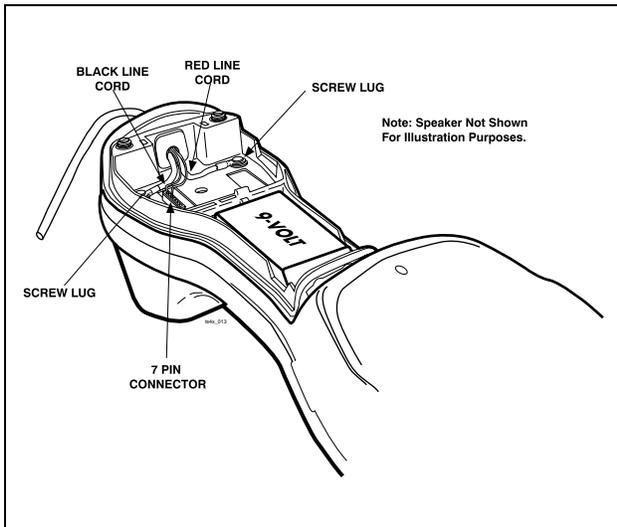

Figure 8. Removal/Installation of Line Cord Screw Lugs
6. Unplug the 7-pin plastic connector (see Figure 8) from the receptacle on the PCB board.
7. Slip the line cord screw lugs (see Figure 8) and 7-pin plastic connector out through the hole in the end of the housing.
2. Fasten the red wire lug to the PCB (Ring) with screw and washer (see Figure 8).
3. Fasten the black wire lug to the PCB (Tip) with screw and washer (see Figure 8).